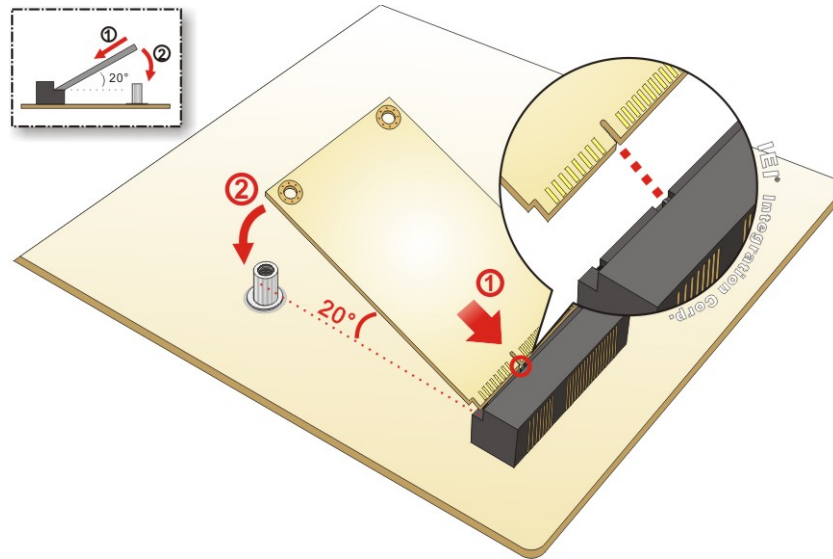

Figure 4-3: Inserting the Full-size PCIe Mini Card into the Slot at an Angle
Step 3: Insert into the socket at an angle. Line up the notch on the card with the notch on the slot. Slide the PCIe Mini card into the socket at an angle of about 20° (Figure 4-3).